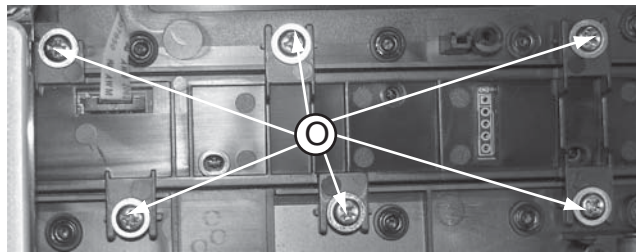

Figure 16
- 1) Loosen 6 screws "O" to remove the Touch board as shown in figure 16.